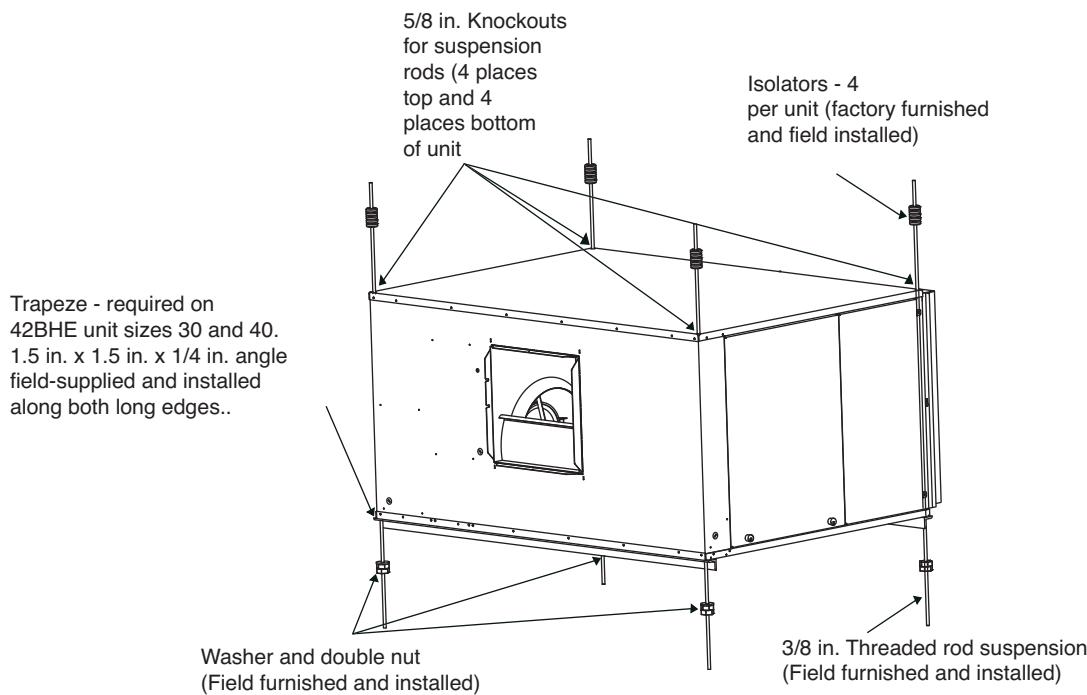

Fig. 9 — 42BHE Threaded Rod Suspension
1. The horizontal blower coil units have 5/8 in. (15.88 mm) knockouts in each corner of the top and bottom panels for 1/2 in. (12.70 mm) all thread (not supplied with unit) to pass through (see Fig. 9 and 10). Be sure to support the unit from underneath until mounting is complete.